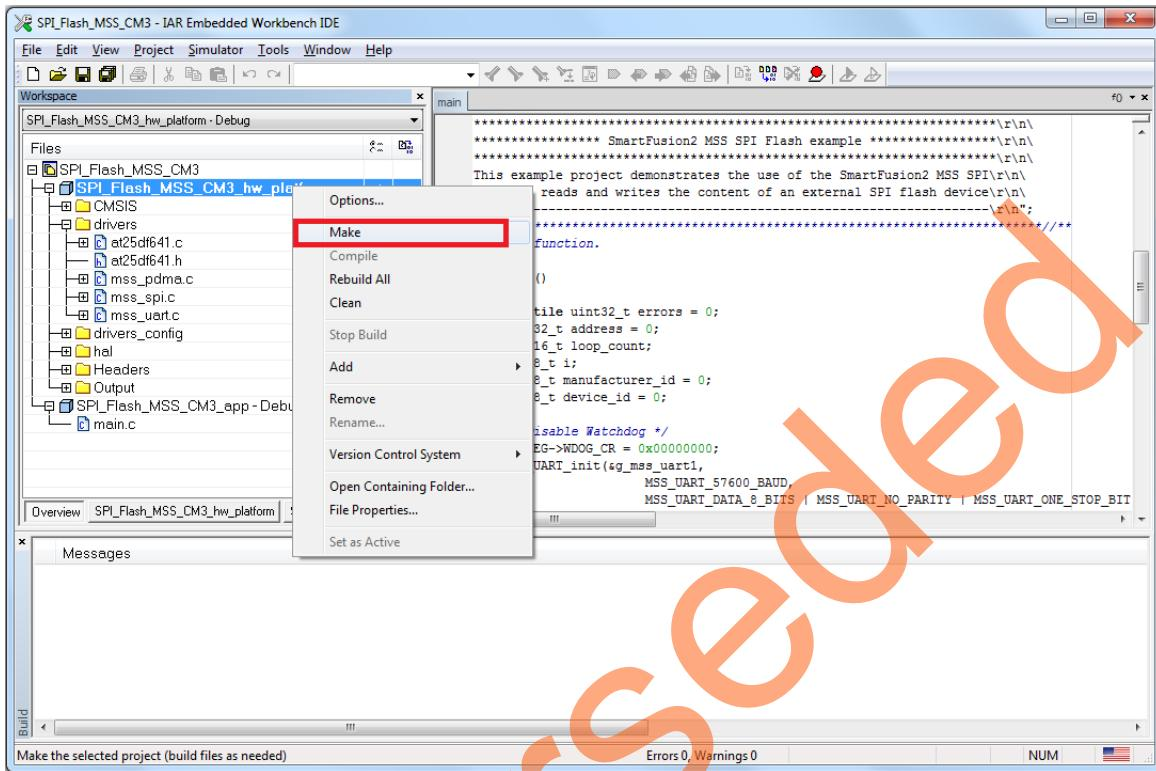
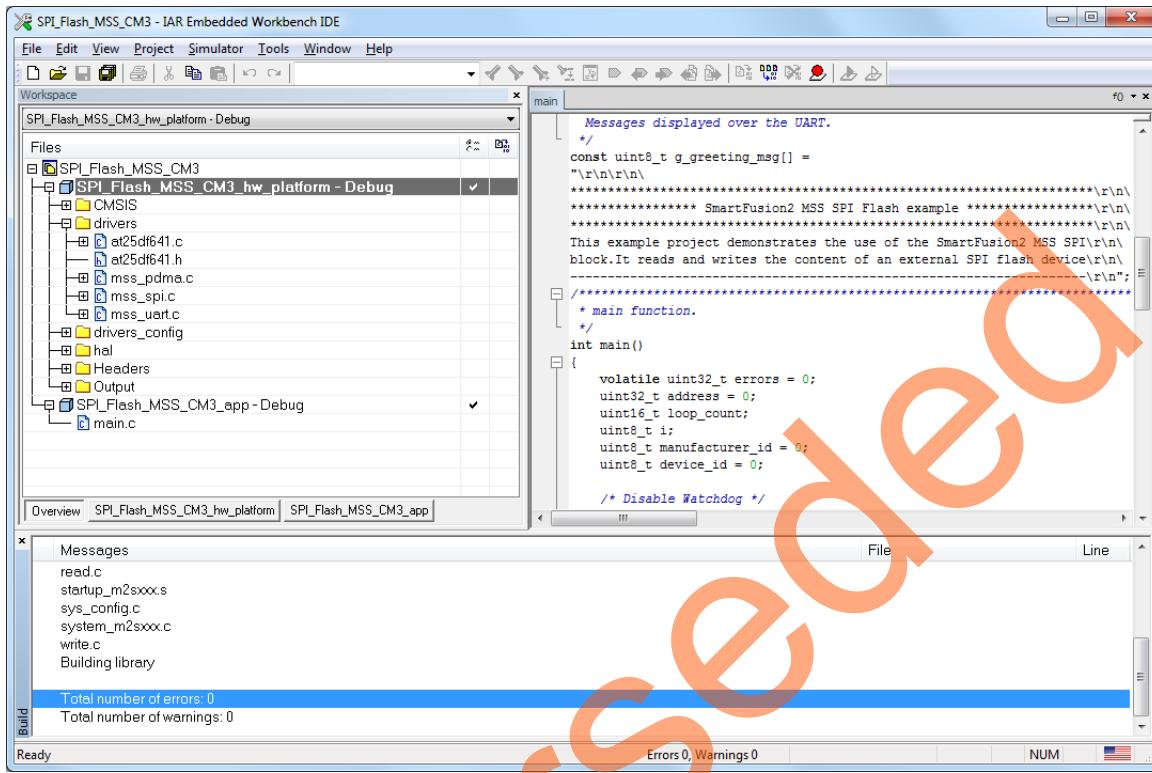

Figure 31 • IAR Workspace - Hardware Platform Code Compilation using Make
Figure 32 • IAR Workspace - Successful Hardware Platform Code Compilation using Make
17. Right-click on **SPI_Flash_MSS_CM3_hw_platform - Debug** and select **Make** as shown in (Figure 31 and Figure 32 on page 30).